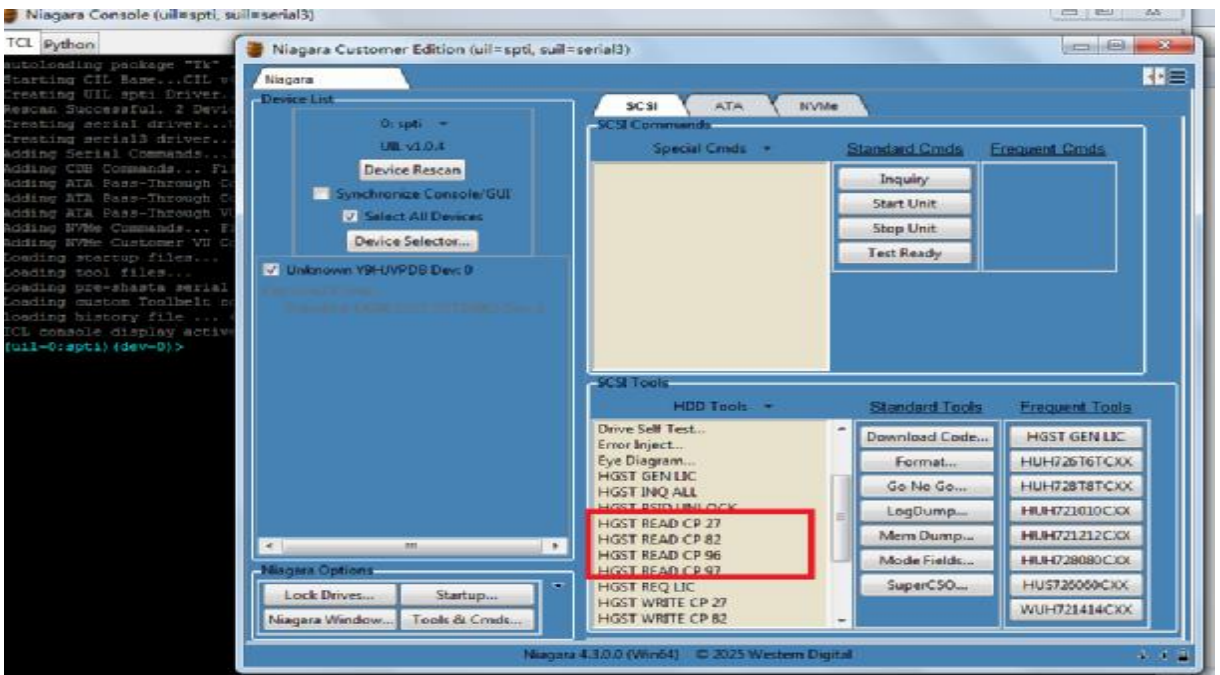

Figure 5 READ DISK MODULE
Click HGST READ CP to read module information (Figure 5). Data is saved in the SN folder.
1. Click ****HDD TOOLS > Download Code**** (Figure 5).